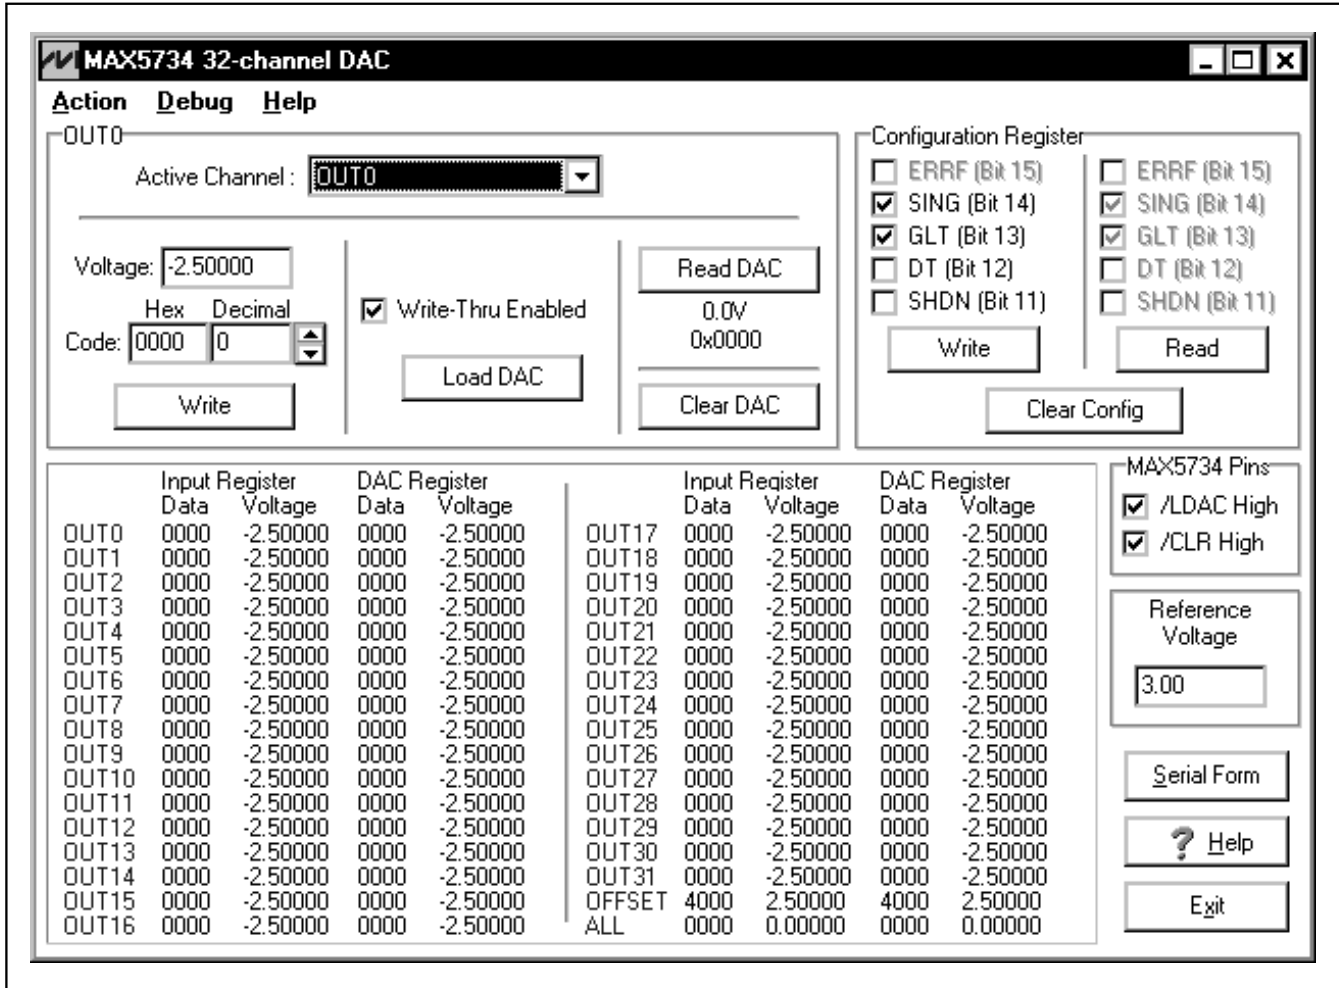

Figure 2. MAX5734 Evaluation Kit Main Form
- 13) The MAX5734 EV kit form (shown in Figure 2) opens after the download to the 68HC16 module is complete.
The user interface (shown in Figure 2) is easy to operate; use the mouse, or press the tab and arrow keys to navigate.